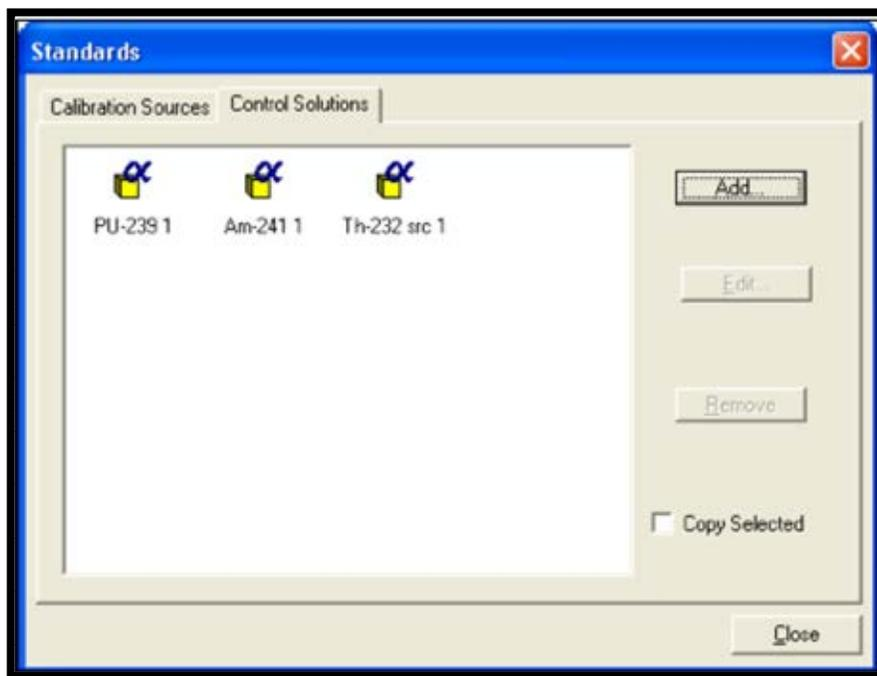

Figure 72. Control Solutions Tab
- 1) To open the Standards dialog (Figure 72), click **Edit/Standards** or the **Standards** button on the Toolbar.